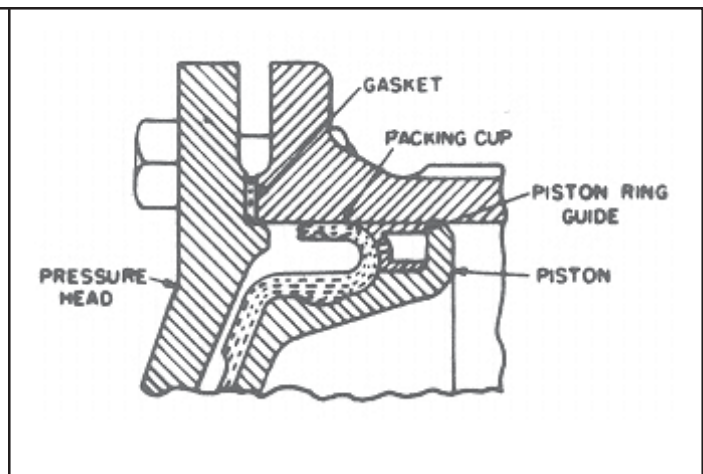

Figure 27 - Partial Section of Brake Cylinder Showing the Piston Ring Guide
- 2.1.2 Remove the swab retainer. Plastic guide rings (See Fig. 27) must not be removed or replaced unless worn to piston diameter.